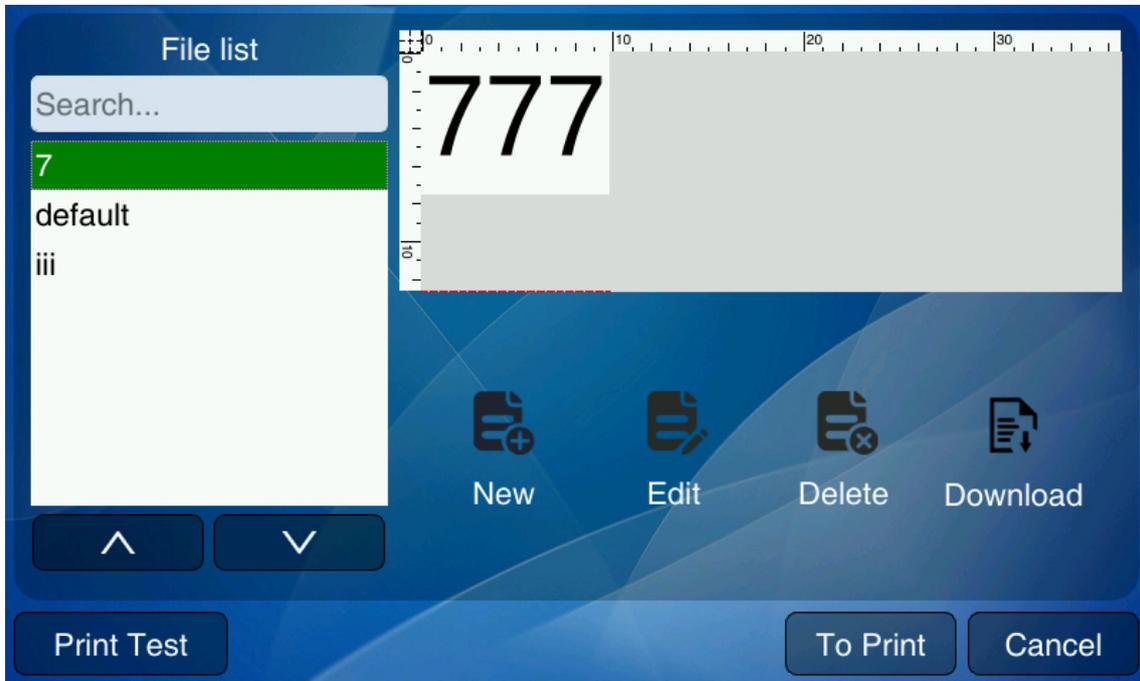

Figure 4-2 Printing selection interface
2. After you select a job from the list, a preview of the job is displayed on the right side of the screen. See Figure 4-2.